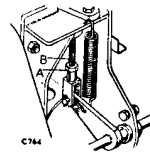

Fig. 56. Clutch adjustment, early models only
- (1) Slacken the push rod locknut at the slave cylinder. See Fig. 56.
- (2) Adjust the push rod by rotating until the free movement at the pedal is $1\frac{1}{4}$ in. (38 mm). The total free play is felt in two stages:
- (3) When the correct movement of the pedal pad has been obtained secure the push rod with the locknut.